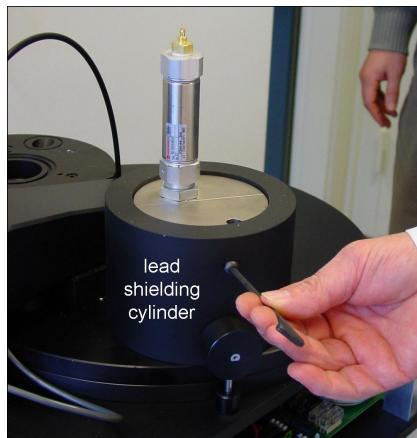

Figure 4.12: Removing Pb shielding.
2. Remove the lead shielding cylinder by removing the socket screw using a 4 mm hexagonal key (Allen key, see Figure 4.12)